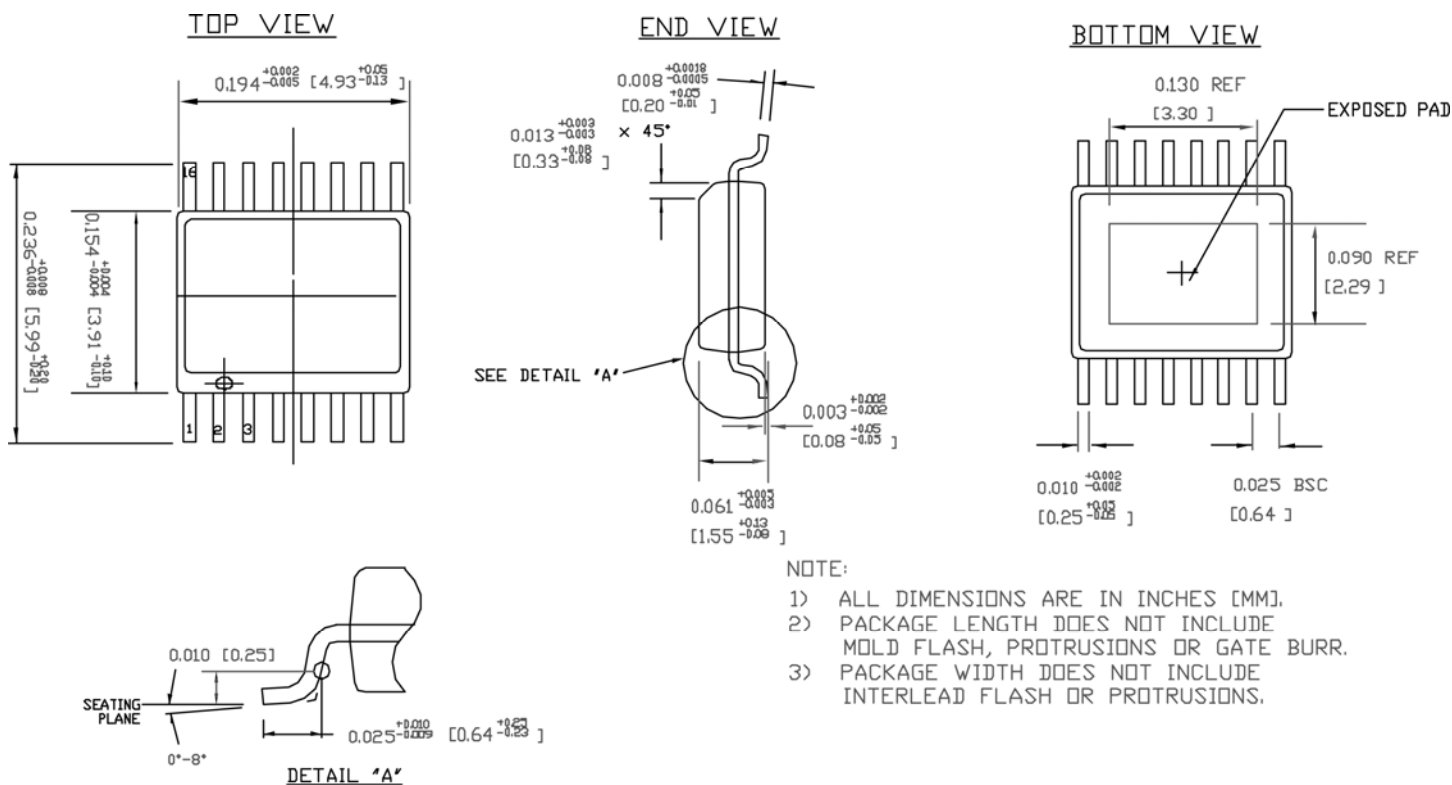

**Figure 3b. Individually Terminated
8. Tested using environment of Figure 3b,  $50\Omega$  load CML output.